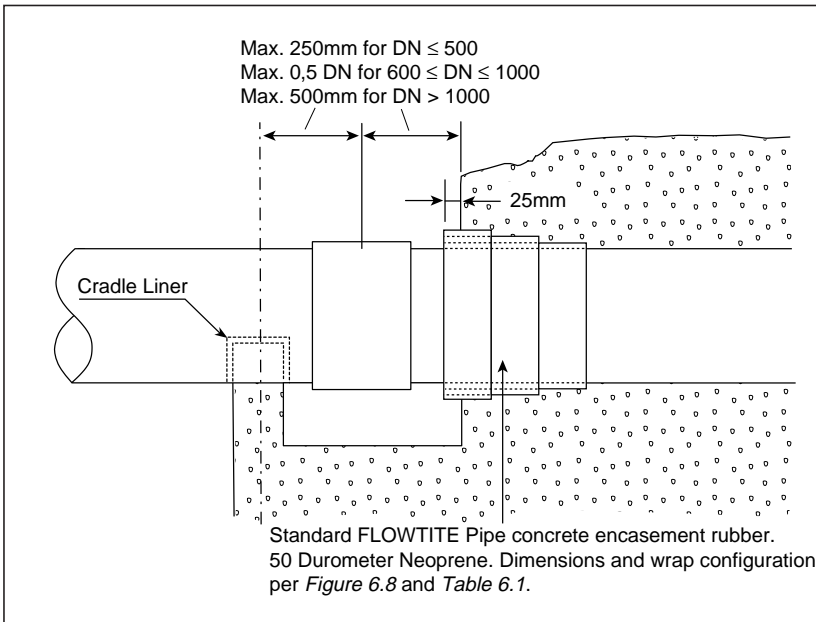
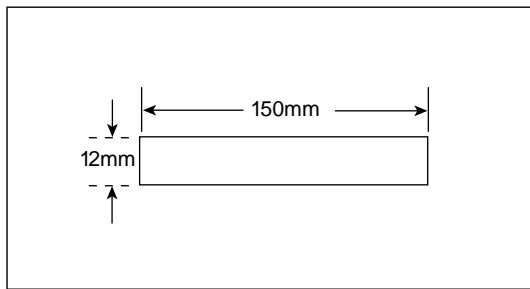

Figure 6.7
Figure 6.8
Where A is not possible, wrap (*Figure 6.7*) a band (or bands) of rubber (*Table 6.1* and *Figures 6.8* and *6.9*) around the pipe prior to placement of any concrete such that the rubber slightly protrudes (25 mm) from the concrete. Lay out the pipeline so the first completely exposed coupling joint is located as shown in *Figure 6.7*.
1. Position as shown in *Figures 6.7 and 6.9*.